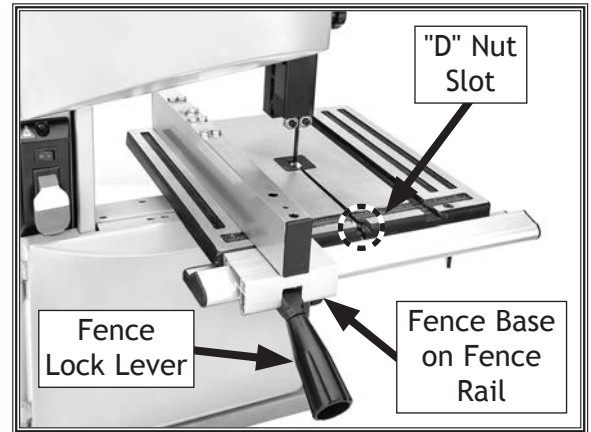

Figure 16. Fence installed on fence rail.
9. Insert "D" nut into slot shown in **Figure 16**.
10. Thread M6-1 x 24 fence rail knob up through middle notch of fence rail, into "D" nut (see **Figure 16**), and tighten.
11. Pull fence lock lever up and place fence assembly onto fence rail, making sure it snaps into place, then push lock lever down to secure fence (see **Figure 16**).